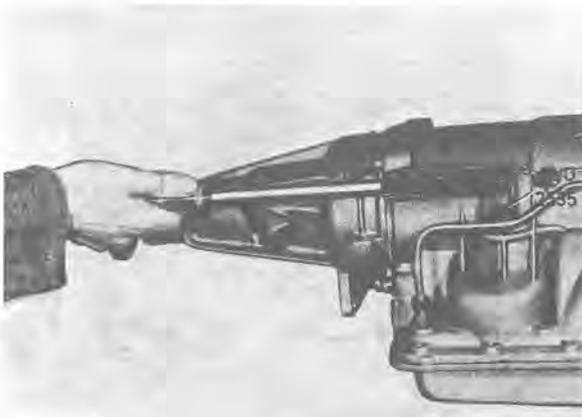

Fig. 4-73. Adjusting rear brake band
2. Use the special socket SVO 2535 and connect the torque wrench to the adjusting screw, see Fig. 4-73. Tighten the screw to 10 lb.ft. (1.4 kpm). Back off the adjusting screw one turn.